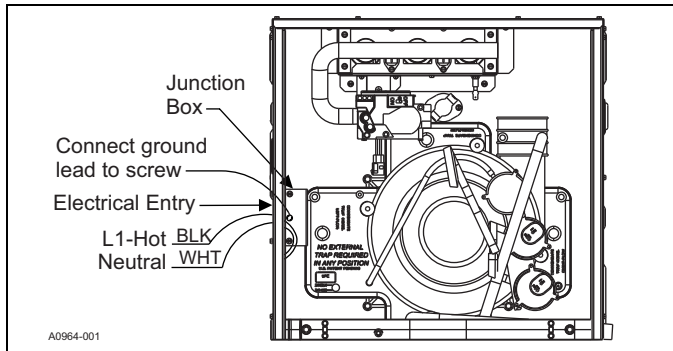

Figure 13: Electrical wiring
2. Remove the wiring box cover screws. Route all power wiring through a conduit connector or other correct bushing that is field installed into the unit opening and the junction box. In the junction box, there is a black wire, a white wire, and a green ground screw. Connect the power supply as shown on the unit's wiring label located on the inside of the blower compartment door or see Figure 13. Connect the black wire to L1 (hot) from the power supply. Connect the white wire to neutral. Connect the ground wire (installer-supplied) to the green (equipment ground) screw. An alternate wiring method is to use a field-provided 2 in. x 4 in. (5.1 cm x 10.2 cm) box and cover on the outside of the furnace. Route the furnace leads into the box using a protective bushing where the wires pass through the furnace panel. After making the wiring connections, replace the wiring box cover and screws. See Figure 13.
3. The furnace's control system requires correct polarity of the power supply and a correct ground connection. See Figure 13.